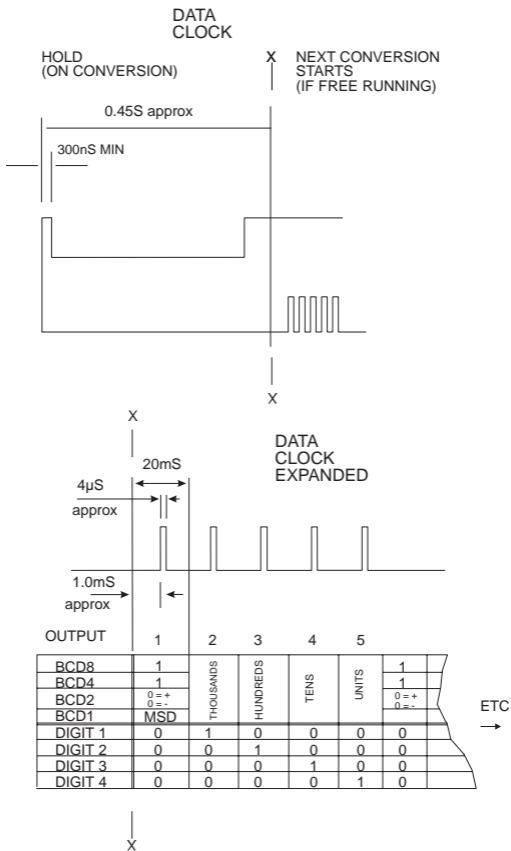

Figure 5 Multiplexed BCD Timing diagram
The instrument converts the input analogue signal to a digital format. The conversion cycle is continuously repeated, see Figure 5. All information lines are capable of driving one TTL load.
7.10 Remote Displays (figure 5)